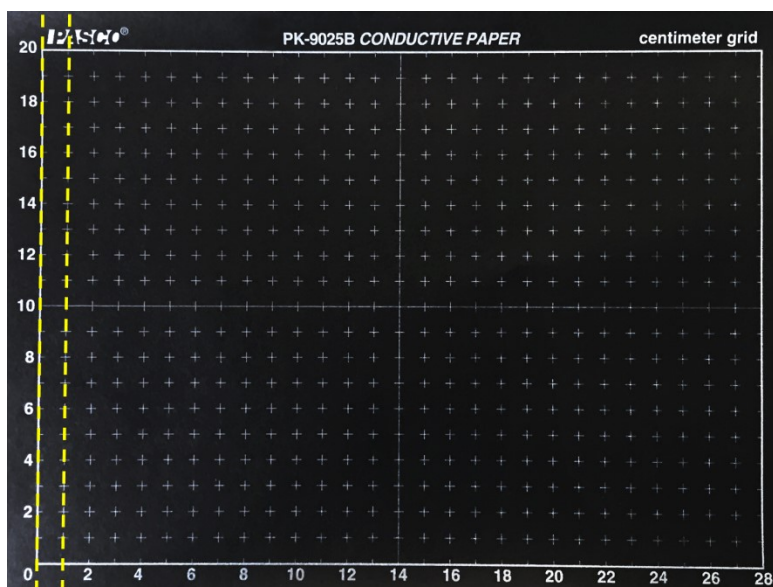

Fig. 2: Cut a 1 cm wide strip of conductive paper as shown by the dashed yellow lines.
1. Cut a 1 cm wide strip of conductive paper as shown in Fig. 2. Make sure to include the top and bottom margins as shown below.